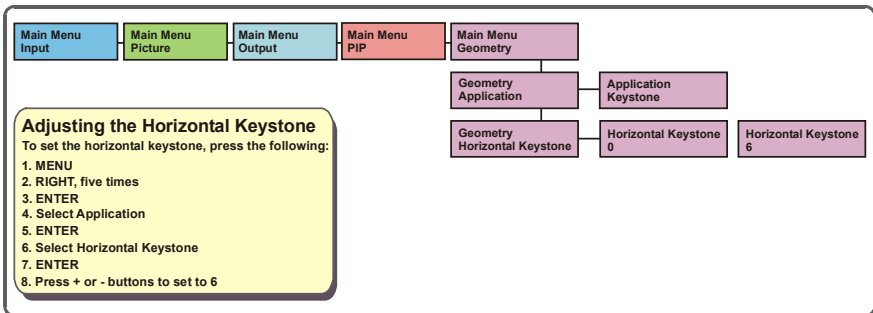

Figure 20: Example of how to use the LCD Display
2. Press the appropriate front panel OSD buttons (as defined in Figure 20).